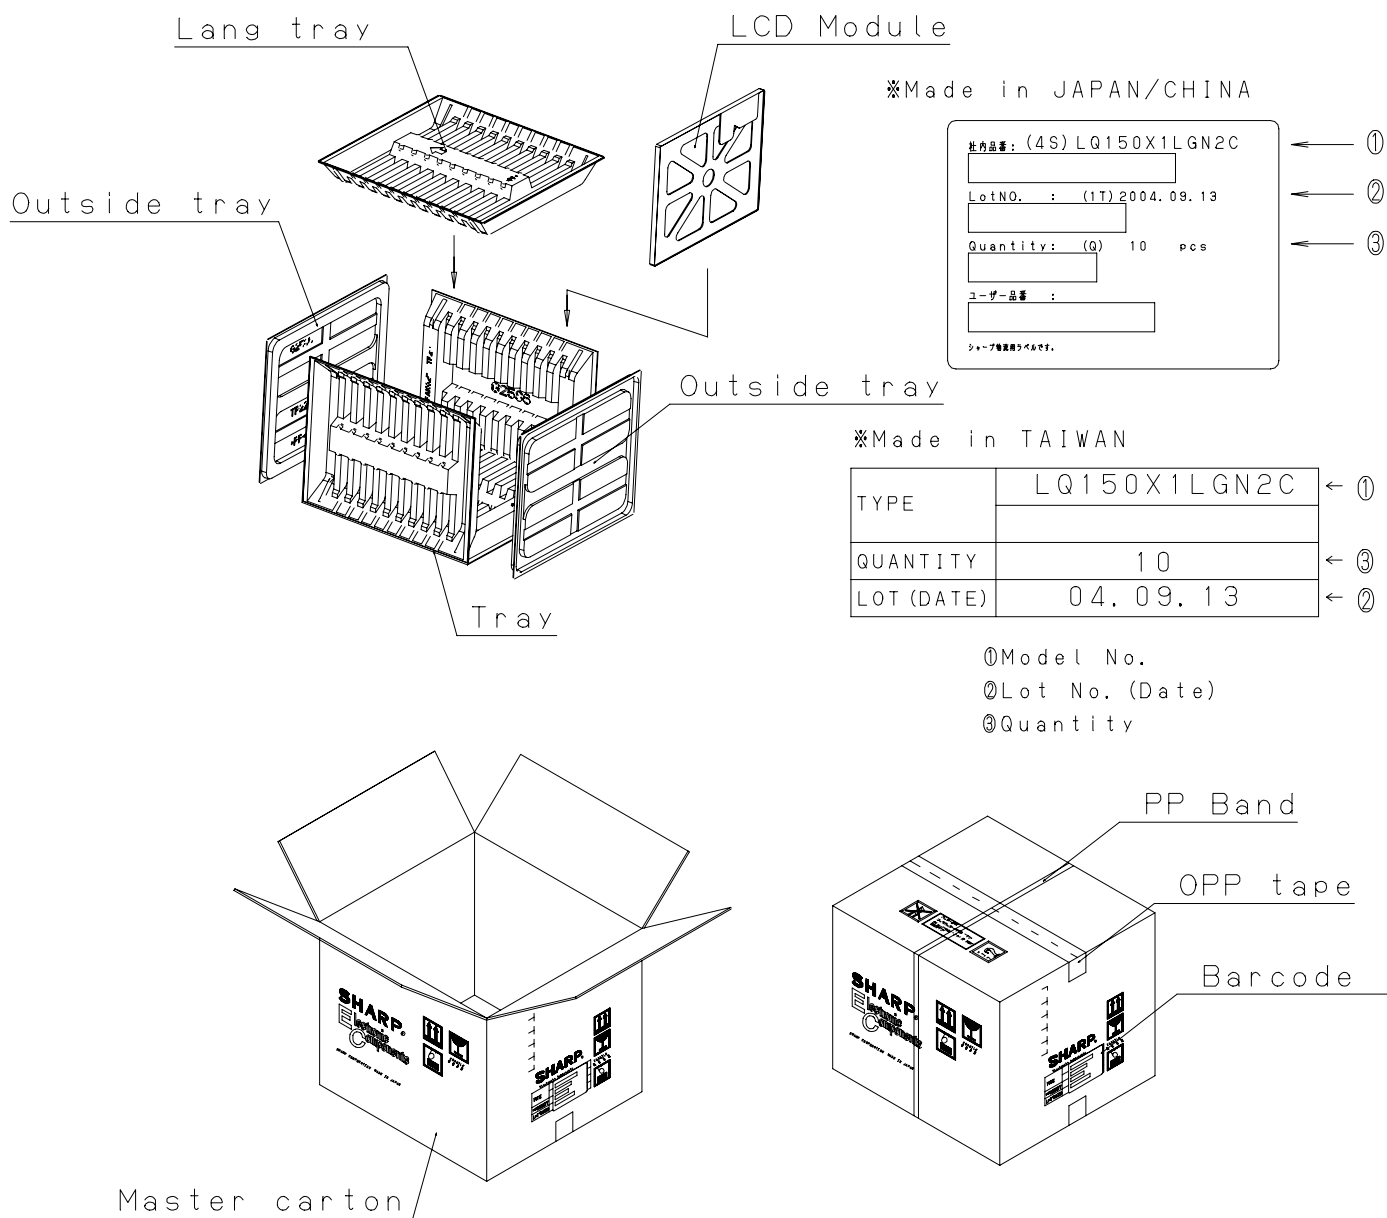

Fig.3 Packing Form (LQ150X1LGN2C)
- f) Packing form is shown in Fig.3